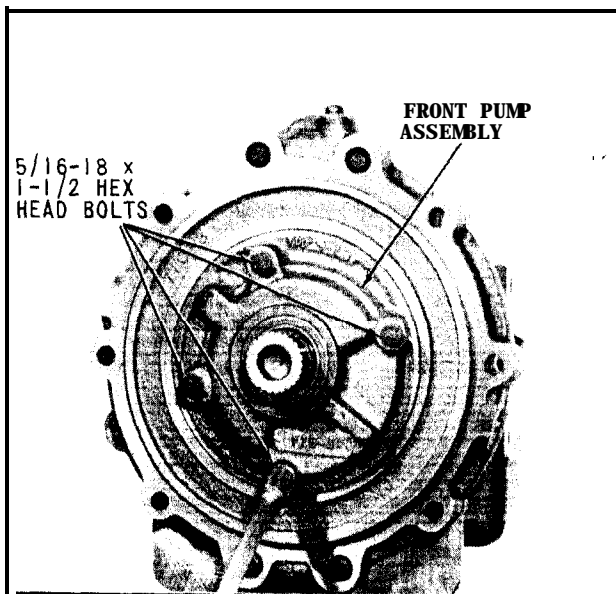

Fig. 69 Mounting Front Pump to Adapter
68. With the pump **assembled** squarely against the adapter and pump gasket, and the seal **assembly** tool removed, install four (4) 5/16-18 hex head bolts, (Fig. 69). Tighten hex head bolts evenly to torque of 17-22 pounds-feet.